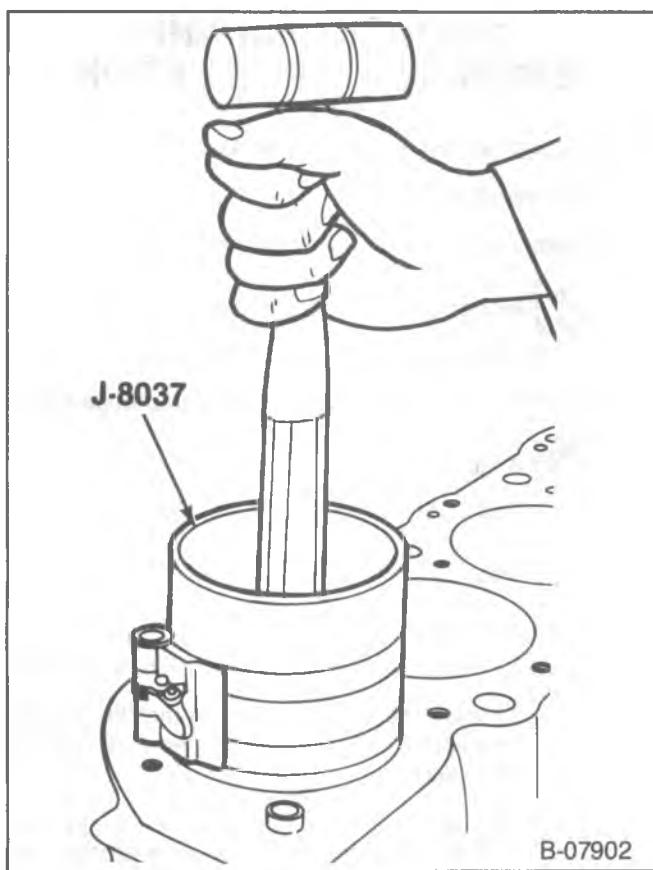

Figure 37—Installing the Piston and Connecting Rod
- Without disturbing the ring end gap location, install J-8037 over the piston (figure 37).
- Place the piston in its matching bore. Using light blows with a hammer handle, tap the piston down into its bore (figure 37). At the same time, from beneath the engine guide the connecting rod to the journal with the pieces of hose (figure 38). Hold the ring compressor against the block until all rings have entered the cylinder bore.